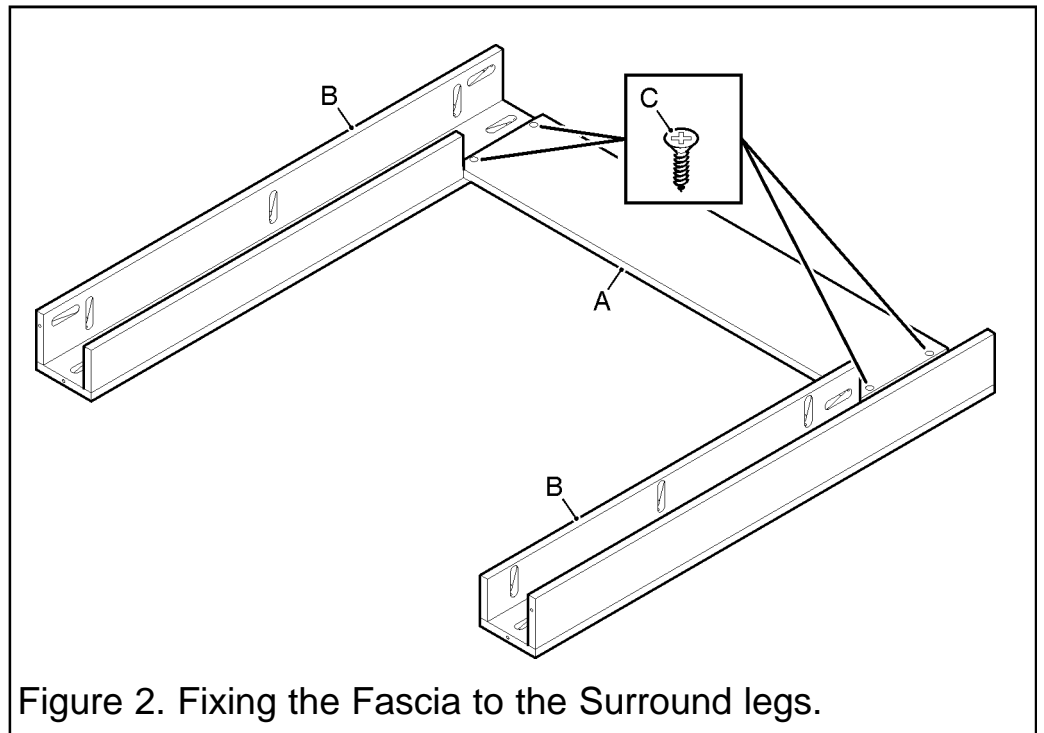

Figure 2. Fixing the Fascia to the Surround legs.
- Take the Fascia (A) and secure it to Legs (B) using four (C) screws (See figure 2).